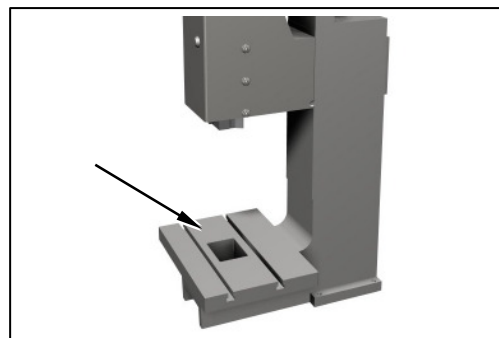

Fig. 7 Press table
- ▶ Place tool on press table (**Fig. 7**).